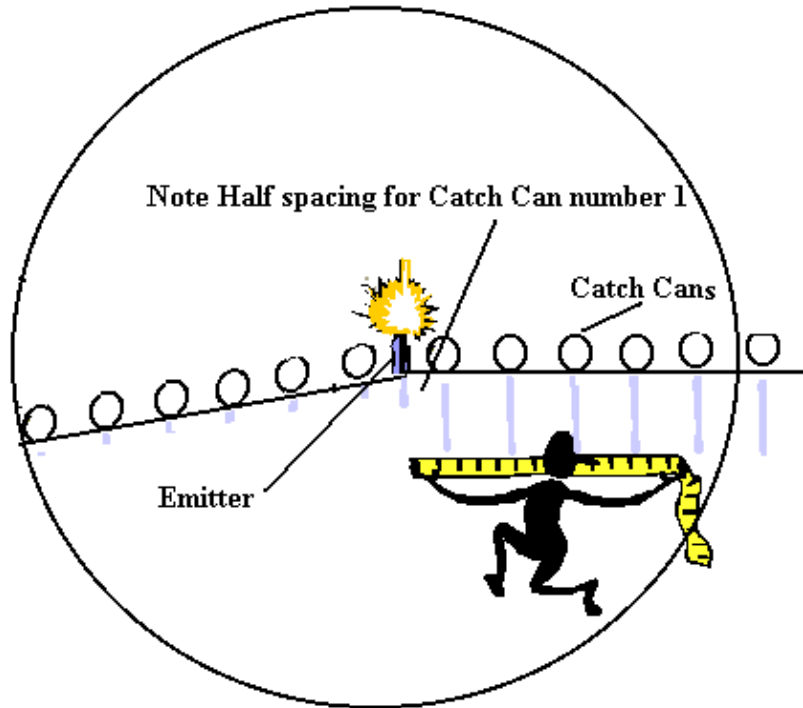

Figure 3: Positioning for two radials of catch cans
- Step 4** Decide on the spacing you will use for your catch cans. Place the catch cans in a row across the diameter of the sprinkler's wetted circle as shown in Figure 3.